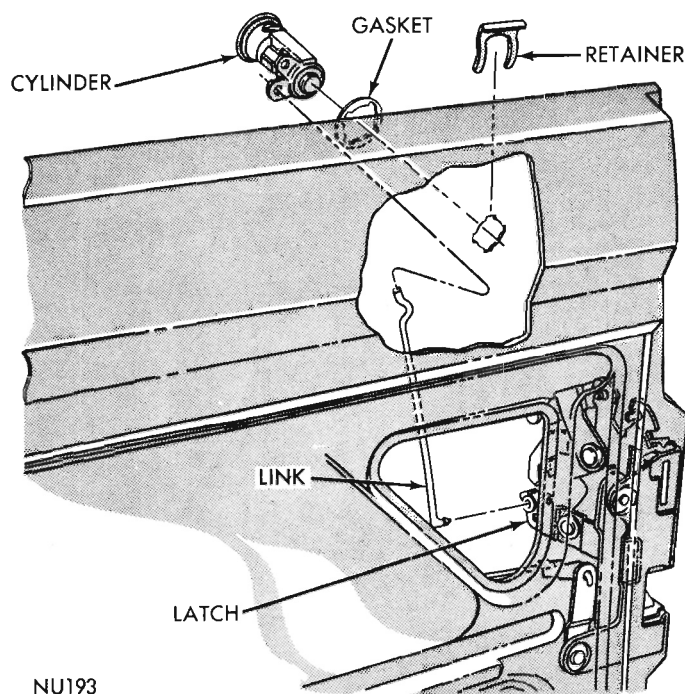

Fig. 17 - Door Lock Cylinder
- (1) With window in up position, disconnect cylinder link (Fig. 17) from clip on lock lever and from cylinder.
- (2) Remove retainer from cylinder body and cylinder from door.